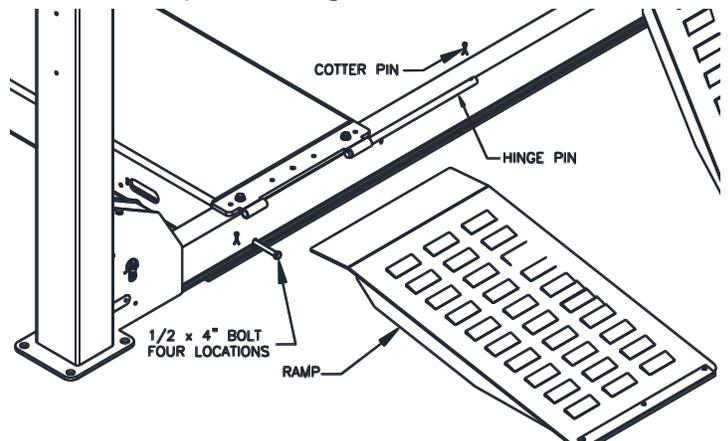

Fig 30 – Warning & Caution Decal
- 84) Install the four 1/2-13 x 4" bolts through front and rear crossbeam and into the runways. Torque to 60-80 foot pounds. See Fig 30
85) Assemble the each Ramp using the hinge pins and cotter pins. See Fig 30.